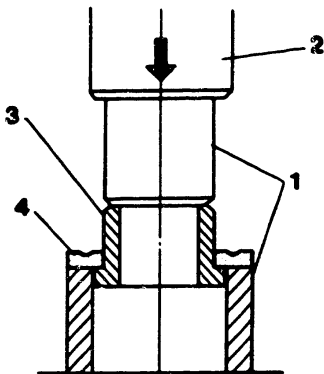

Fig. 46 Removal of outer ring
-4. Remove the bearing's outer ring from the bush. (Fig. 46)